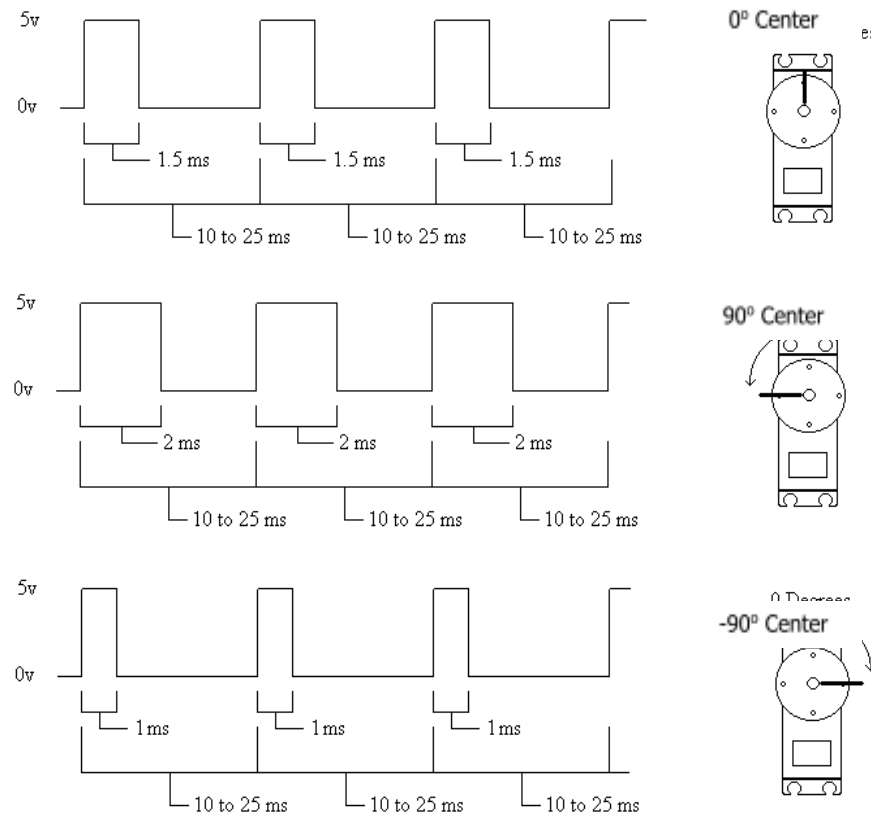
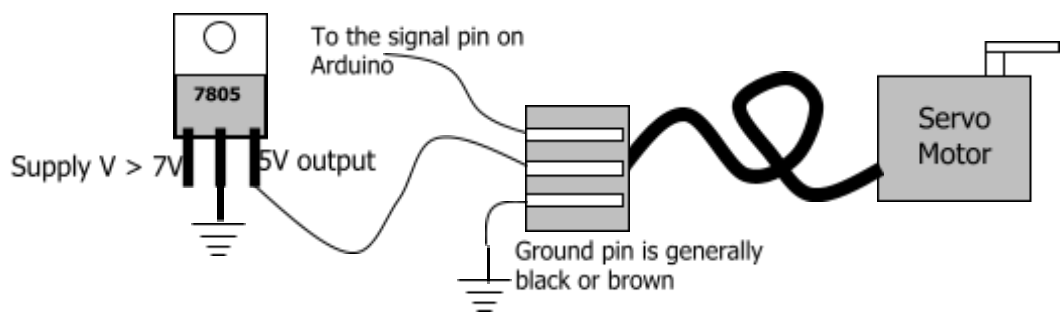

Figure 2. PWM Signal used in controlling a RC servo
Figure 3. Interfacing the RC servo to Arduino
RC servos are small actuators widely used in remotely controlled (RC) toys (i.e. cars, planes, helicopters and boats). These are compact actuation mechanisms that provide an easy way of achieving position control in small scale applications where precision is not essential. Each RC servo is composed of a small DC motor attached to a gear train, a potentiometer and a simple controller. The gear reduction provides a reasonable amount of torque compared to their size. As the name implies, the RC servo has a sensor that tells the current position of the shaft to the controller that is built into this system, namely the potentiometer. The built-in controller compares the current position (measured from the pot) with the target (sent from Arduino) and creates a control signal that will move the output shaft to a position that decreases this difference. By now you should have started wondering how we can set the reference position (in other words, how to tell the motor where to go). The reference position is provided by using a PWM (pulse width modulated) signal. All of the RC servos that you will find in our lab will have a range of 0-180°. The built-in controller of RC servos controls the rotor position within this range. Generally, one end of this range is referred to as -90° and the other as +90° (even though there is no harm if you prefer 0-180°). Figure 2 illustrates the ideal working conditions of RC servos. As shown, RC servos can be rotated to specific
Figure 2 illustrates the type of PWM that you have to generate in order to control the position of the RC Servo. Even though only three discrete positions are illustrated; the servos can be controlled continuously between  $-90^\circ$  ( $P_{\min}$ ) and  $90^\circ$  ( $P_{\max}$ ) degrees.
1. Figure 2 illustrates the theoretical operation of RC servos. However, in practice, the actual values for RC servo limits might deviate from these theoretical ones. Connect the servo pins as follows: middle pin is 5V (mostly supply wire is red), generally the darker colors such as black or brown are used to indicate ground, and the remaining pin is for signaling desired position. By the way, use a separate 5V source to feed the servo and make sure that both sources have the same ground. You can use a separate 7805 for this purpose. The proper wiring is shown in Figure 3. You can provide the signal from any digital output pin. (If you are using a small size servo, Arduino 5V output can be used instead of 7805)